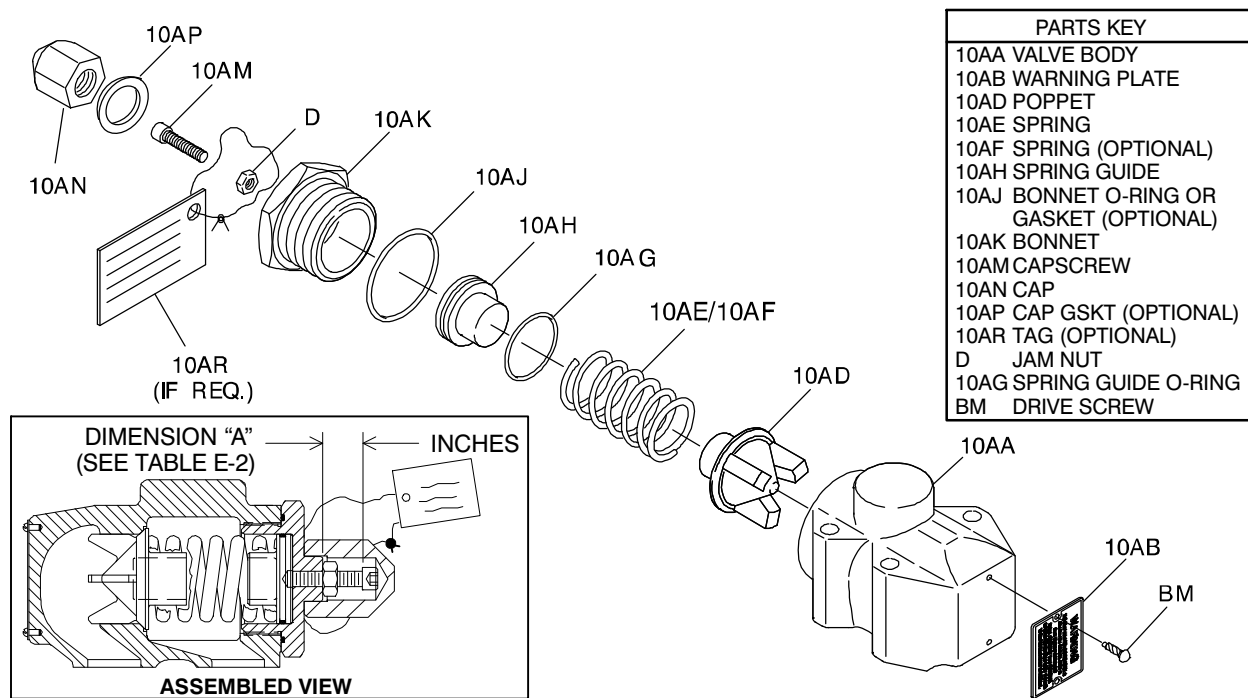

Figure E-6. Pressure Relief Valve Assembly
(Figure E-6)
Install the jam nut (D) on the adjustment capscrew (10AM), and thread the capscrew into the bonnet until the desired height ("A", Figure E-6) is reached. Refer to the separate Parts List accompanying your pump, and determine the specific hydraulic size (D, G or J). See Table E-2 and adjust the capscrew (10AM) to the proper "A" dimension for desired cracking pressure.